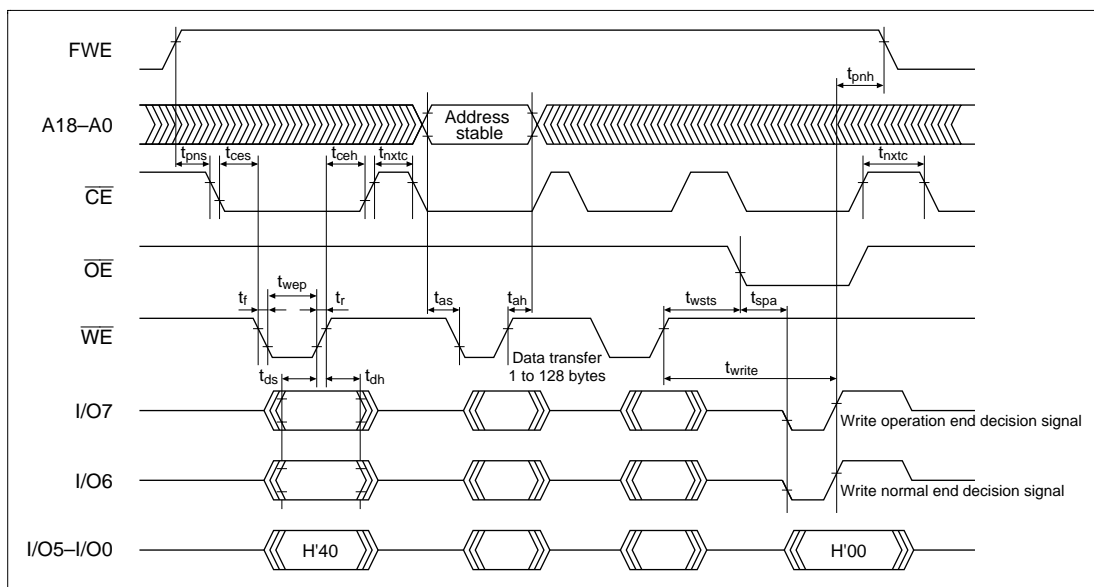

Figure 22-23 Auto-Program Mode Timing Waveforms
4. Memory address transfer is performed in the second cycle (figure 22-23). Do not perform transfer after the third cycle.